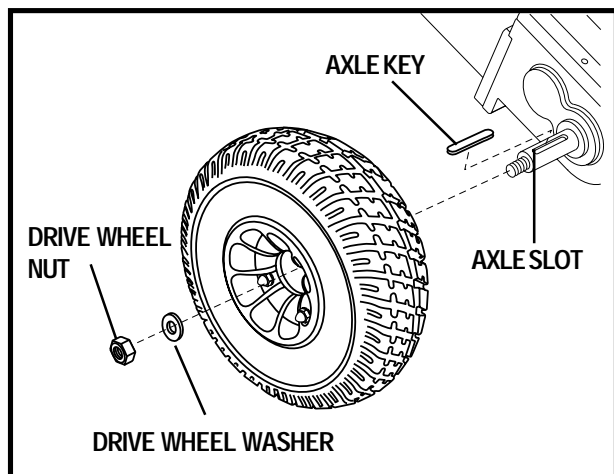

Figure 40. Drive Wheel
4. Remove the drive wheel nut and washer from the axle. See figure 40.